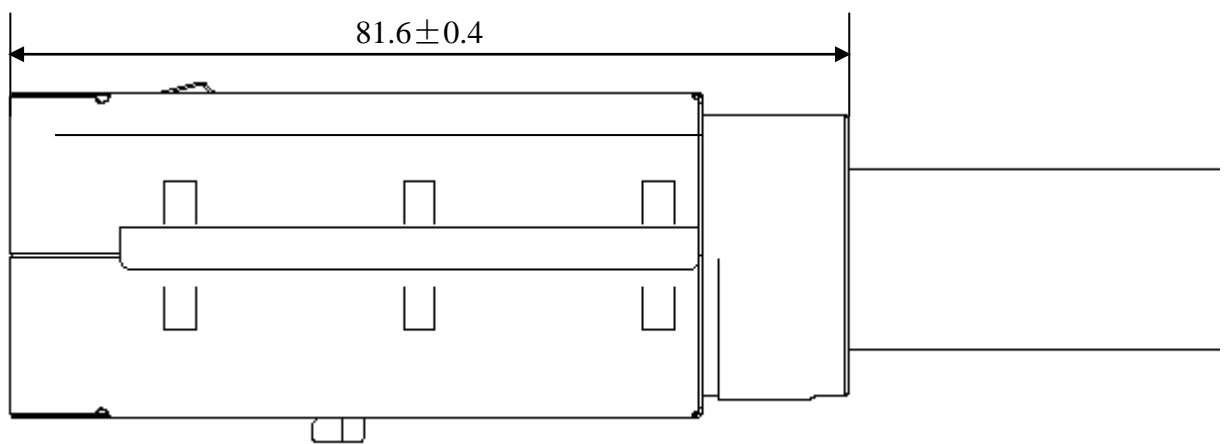

Figure 13: Inspection dimension of shielding ferrule assembly
- C. Inspection dimensions as shown in figure13.